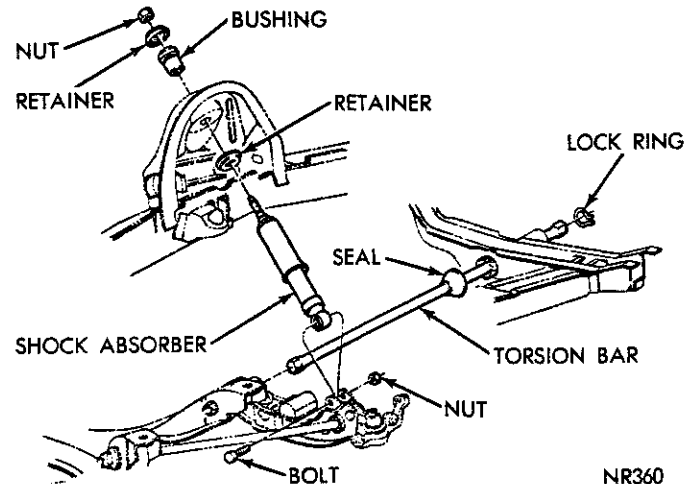
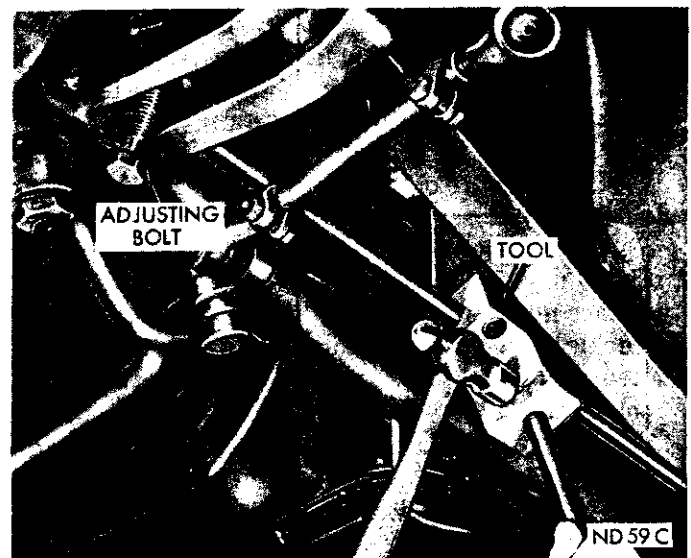

Fig. 4—Torsion Bar
Fig. 5—Removing Torsion Bar
(1) Remove upper control arm rebound bumper.
(2) If vehicle is to be raised on a hoist, make sure it is lifted on body only so that front suspension is in full rebound (under no load). If vehicle is to be raised on jacks, placed under center of crossmember it will be necessary that, a support first be placed between the crossmember and the jack.
(3) Release all load from torsion bar (Fig. 4) by turning anchor adjusting bolt (Fig. 5) counterclockwise.
(4) Remove lock ring from torsion bar rear anchor (Fig. 4).
(5) Using Tool C-3728, remove torsion bar (Fig. 5) from its anchors. It is advisable to place Tool C-3728